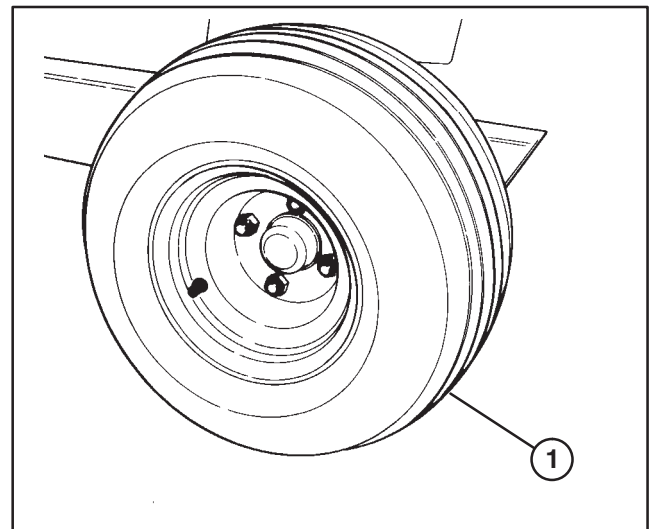

Figure 3
1. Secure wheels to spindle hubs with lug nuts (Fig. 3). Torque nuts to 65–90 ft–lb.